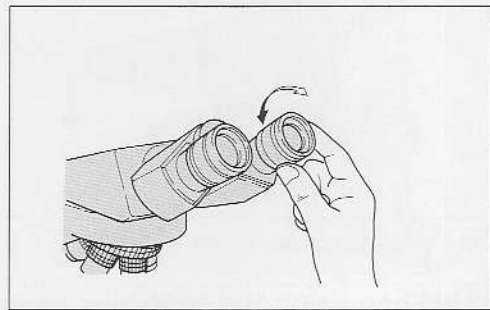

Fig. 7-2
(2) Swing the 40X objective by turning the revolving nosepiece and bring the specimen image into focus by turning the fine focus knob (or the coarse focus knob).
(3) Swing the 4X or 10X objective into position. Without **manipulating the fine and coarse focus knobs**, turn the diopter rings on the eyepieces so that the specimen images in the right and left eyepieces are focused individually (Fig. 7-2).